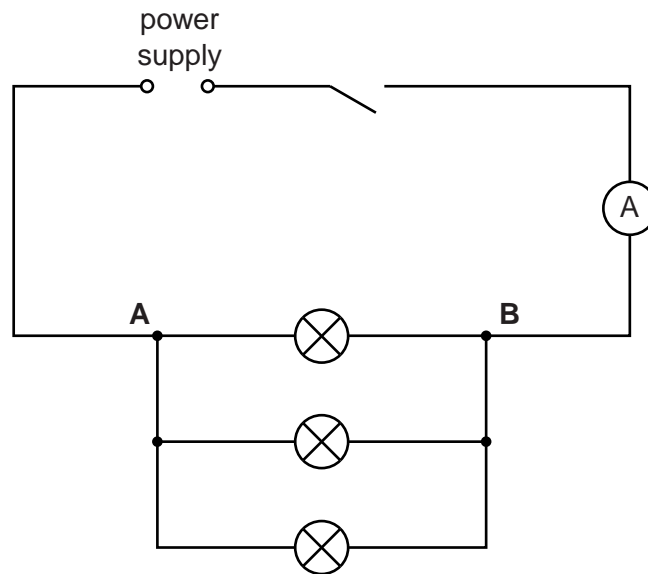

Fig. 3.1
- (iv) Sufficient connecting leads to set up the circuit shown in Fig. 3.1 with 2 additional leads (see note 1).
1. The circuit is to be set up for candidates as shown in Fig. 3.1. Suitable terminals, labelled **A** and **B**, must be provided so that candidates can re-arrange the lamps easily.
Reconnect the circuit as shown in Fig. 3.1.